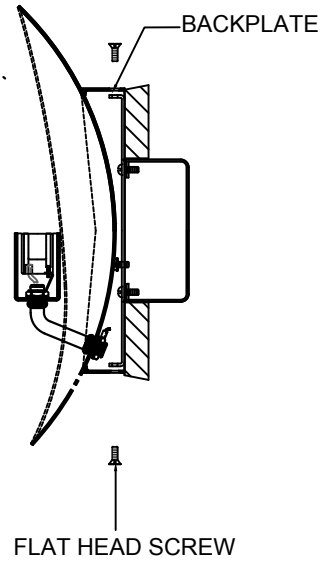

FIGURE-02
5. Attach the frame to the mounting ring with wing and secure it with flathead screws (See Figure-02)